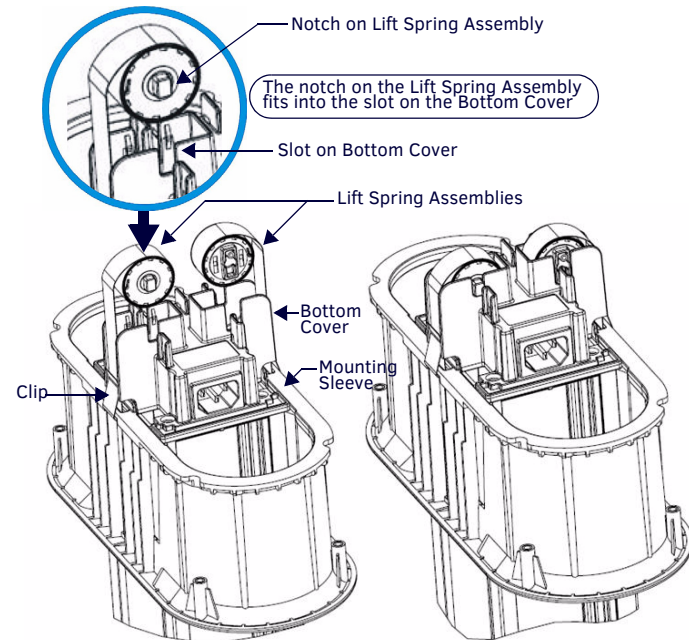

FIG. 10 INSERTING THE LIFT SPRING ASSEMBLY INTO THE BOTTOM COVER
5. Take hold of the body of one lift spring assembly and pull it firmly up so that it can be snapped into the provided slot in the bottom cover (FIG. 10).